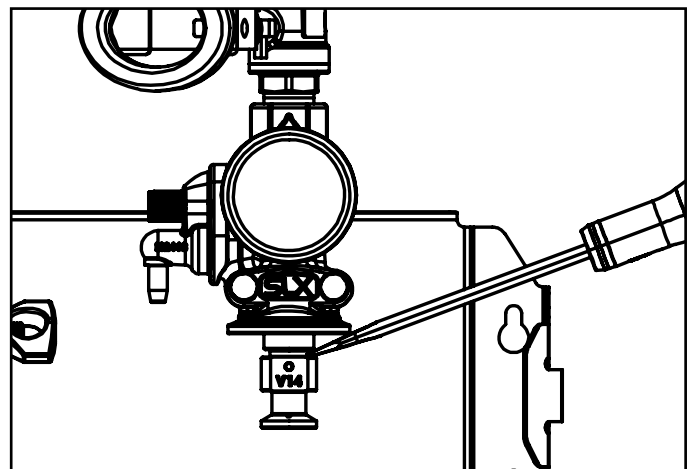

Fig. 9.3: Venturi insert removal using screwdriver
- A screwdriver can be used to pry the insert out if necessary [Fig. 9.3]